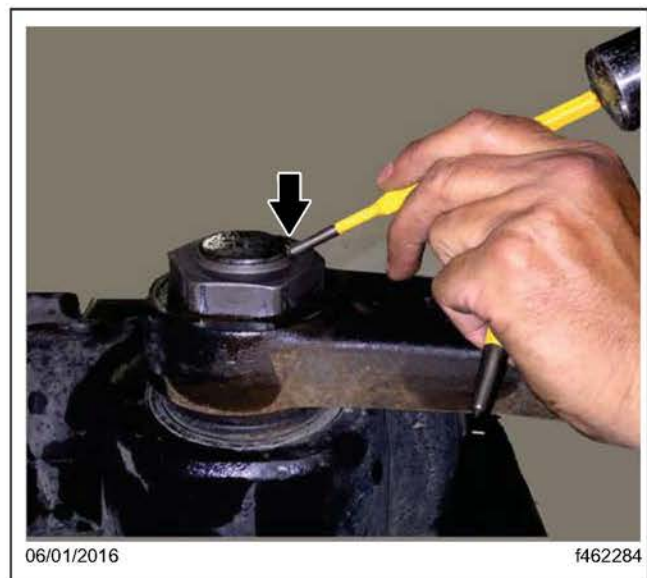

Fig. 13, Staking the Locknut
- 8.3 Using a punch, stake the locknut. See Fig. 13.